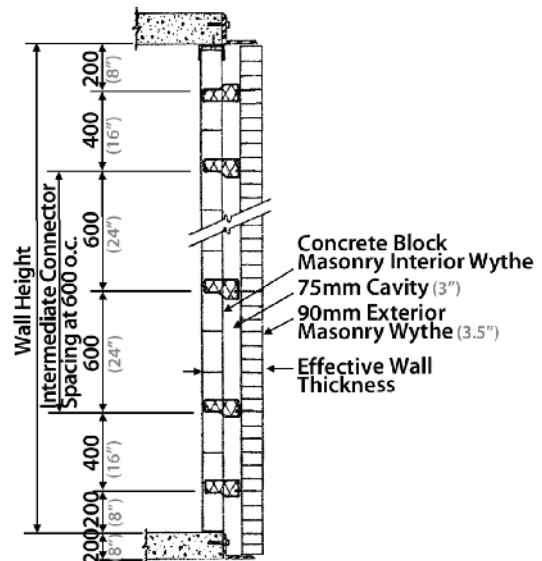

Figure 6 Block Shear™ Connector Vertical Spacing
(Refer to Figure 6)
- (vi) Block Shear™ Connector spacing: 800 mm (32") horizontally; vertically as per Figure 6.